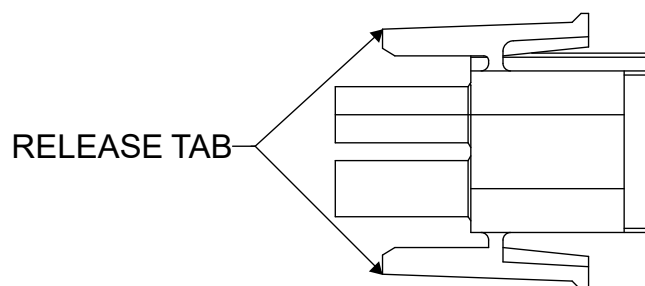

Figure 48 Low Voltage Connector (6 Pin)
- 4) Unplug mating harness connectors for low voltage and high voltage in the control section **FIGURE 47- Line Voltage Connector, FIGURE 48- Low Voltage Connector.**
- 4) Slide-out air conditioning chassis **FIGURE 48 – Slide Out Chassis**